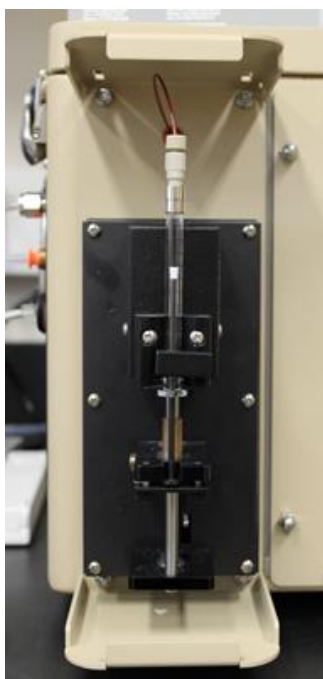

Figure 2.1 – Harvard Pump
3. Remove the needle, if used, and screw the syringe into the solvent transfer system and place it into the Harvard pump (Figure 2.1).